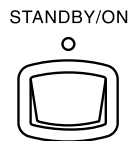

Figure 5
1. Press the STANDBY/ON Push-button on the Front Panel or press the (Power) Push-button on the Remote Control to switch On the MS500. Refer to figures 5, 6 and 7.
2. To switch Off the MS500, press the STANDBY/ON Push-button on the Front Panel or press the (Power) Push-button on the Remote Control. Refer to figures 5 and 6.